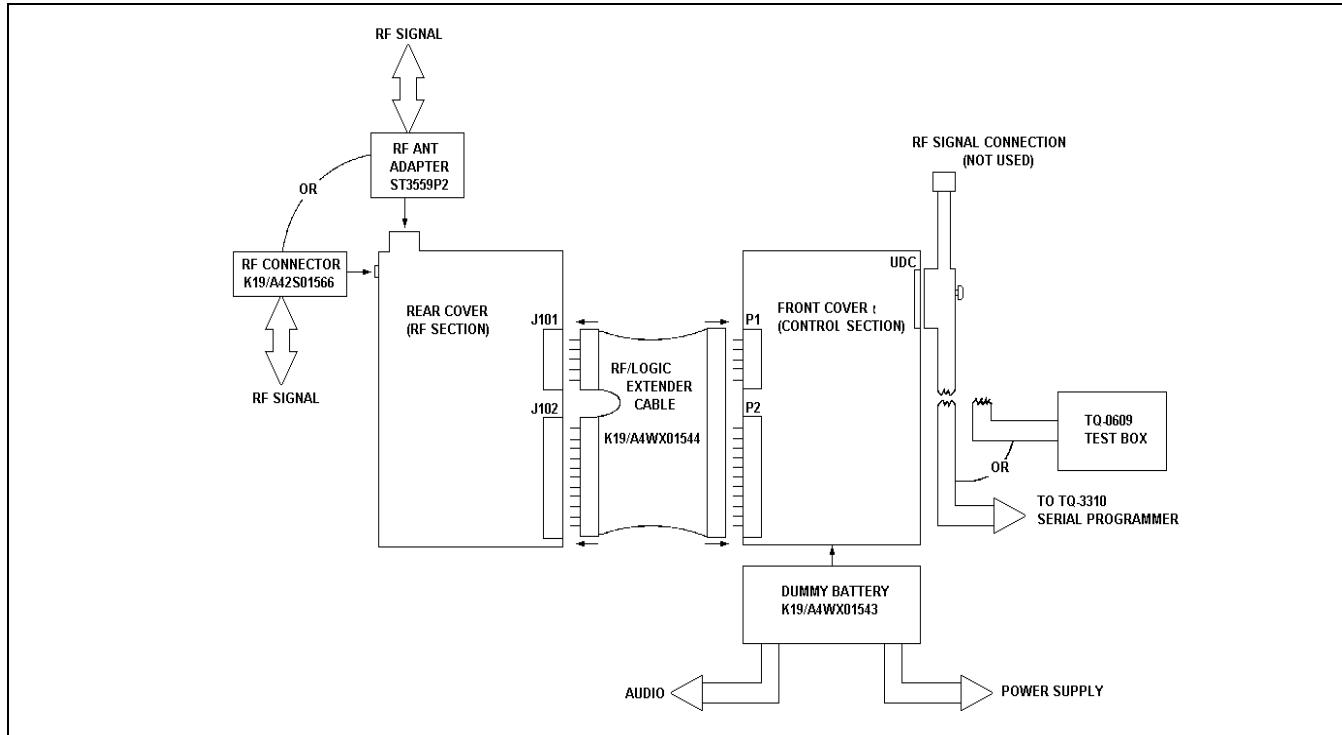

Figure 1 - M-PA Alignment and Test Set-Up
- (1) Separate the front and rear covers and connect the RF/Logic Extender cable between the RF Board and the Logic Board. (See Figure 1) Be extremely careful when working with these delicate connectors.
- (2) Slide the Dummy Battery onto the front cover and connect the audio output leads to the distortion analyzer. Place the Dummy Battery ON/OFF switch in the OFF position to direct the speaker audio to the distortion analyzer. Connect the PC Programmer to the UDC.
- (3) Set the power supply to 7.5 ± 0.1 volts and connect the Dummy Battery supply leads to the power supply.
- (4) Program the M-PA with FREQ #1, #2 and #3 from Table 1 using the PC programming option. To fully test the transmitter circuits, program a channel pair for each frequency, one at high transmitter power and one at low transmitter power. This will result in a total of six programmed channels. It may be desirable to program more frequencies into the unit. Operation of the PC programmer can be found in TQ-3339/4339, M-PA Programming Manual.